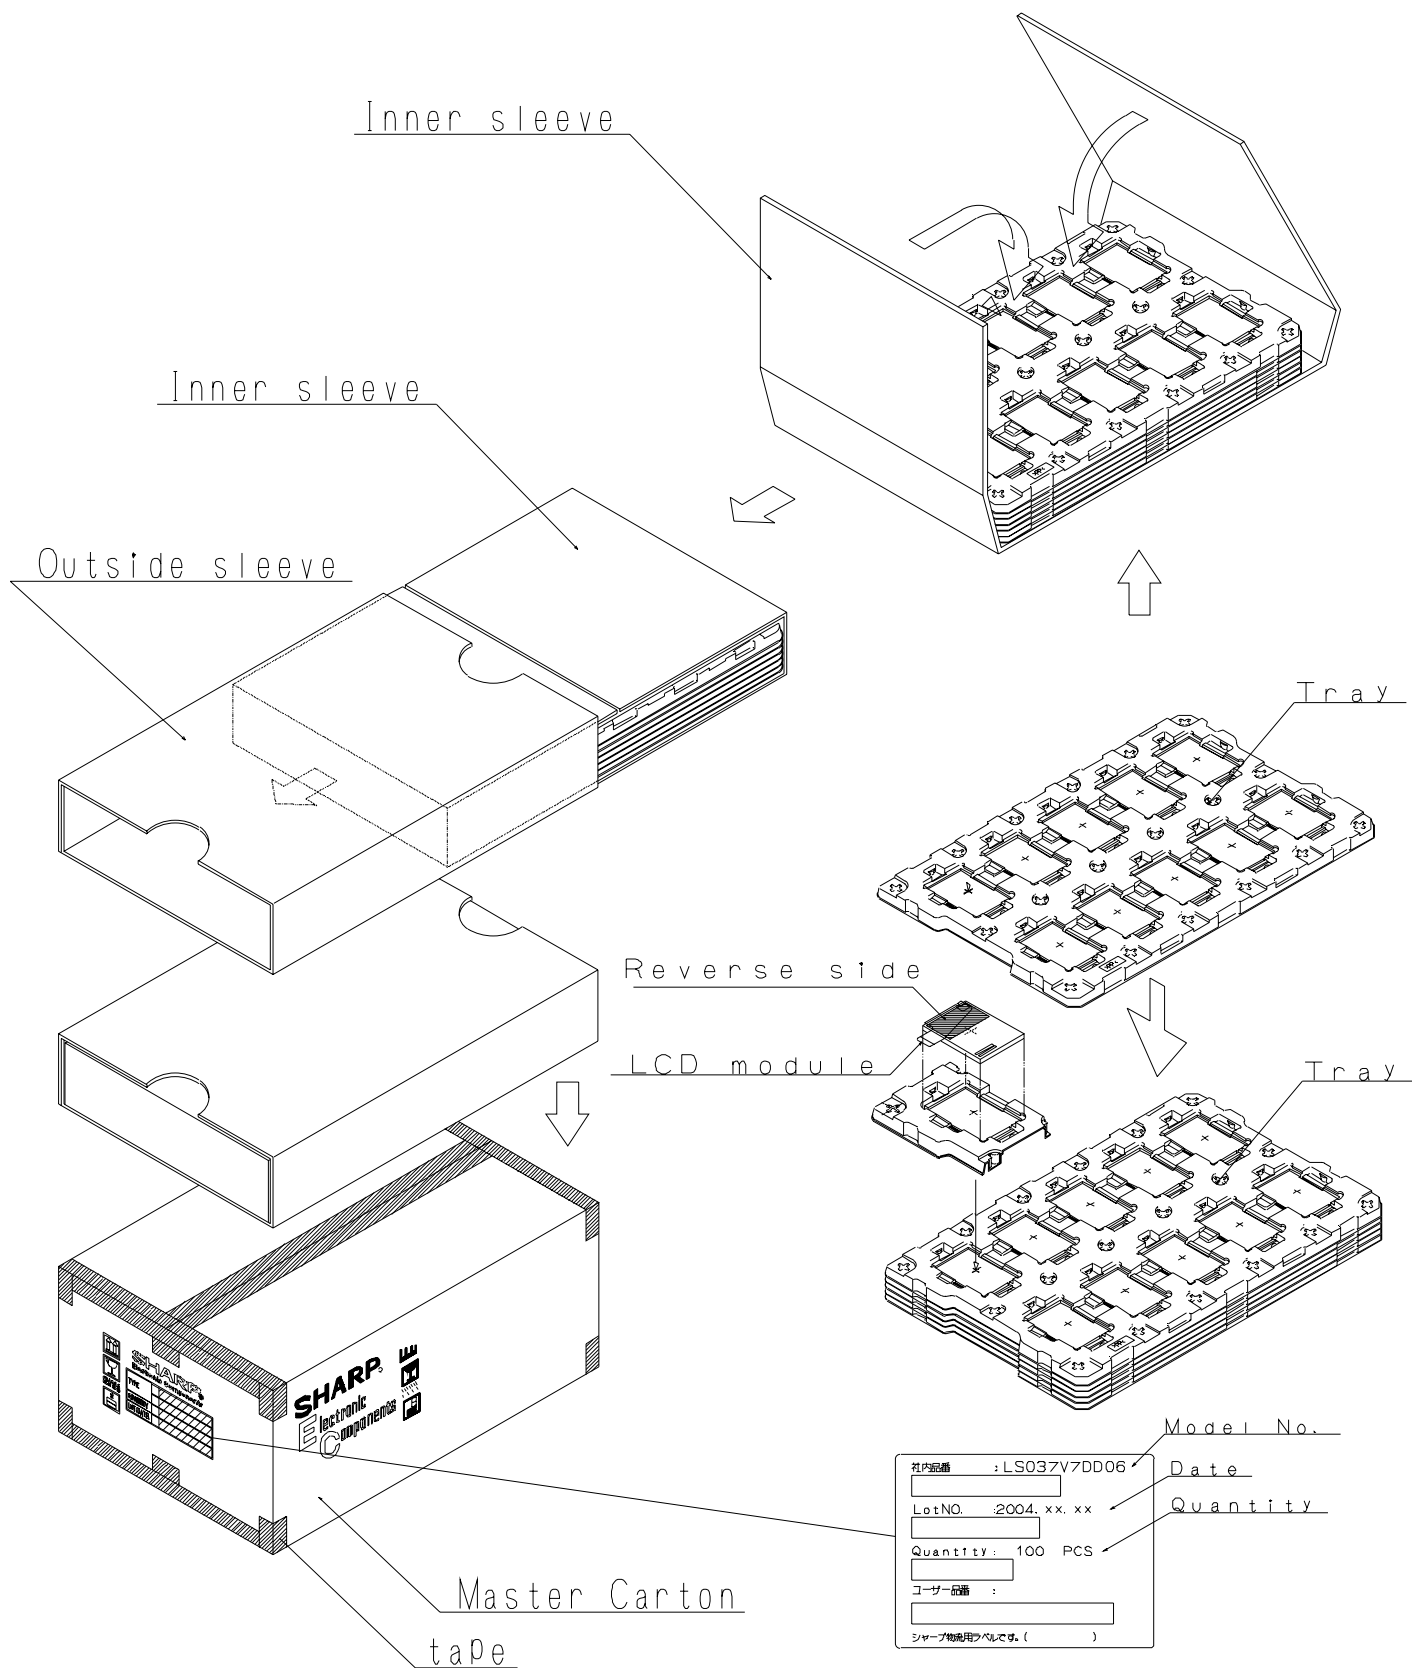

Fig2. Package Form
(15) Forwarding form (see Fig.2 Package Form)